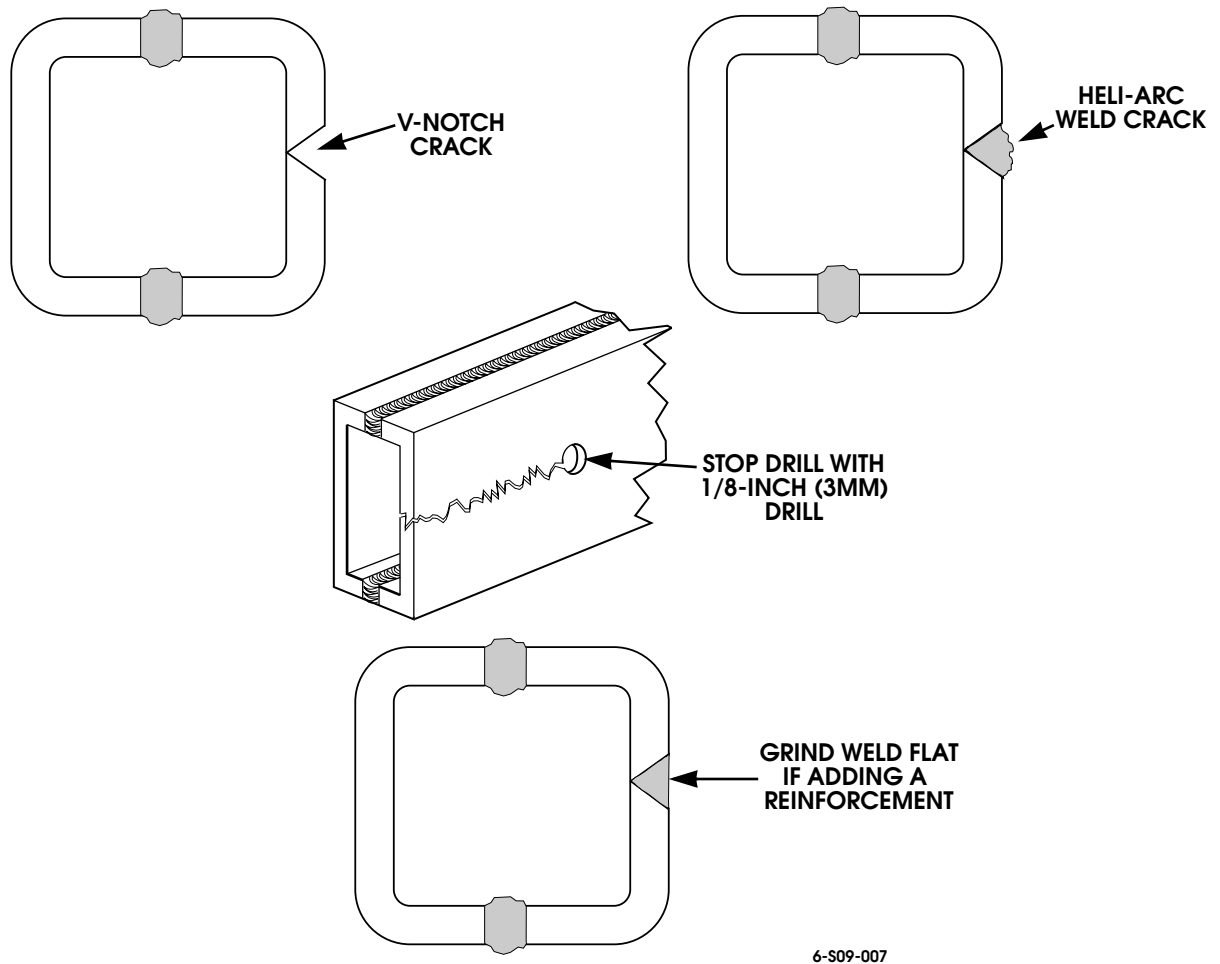

Figure 9-156: Crack Repair
- Stop-drill crack with 1/8-inch (3 mm) drill (Figure 9-156)
- Vee-notch crack (Figure 9-156)
- Heli-arc weld crack with Mig or Tig welder (using a filler metal in accordance with AWS A5.18) (Figure 9-156)
- If reinforcement or fishplate is to be added, grind weld to a flat surface (Figure 9-156)